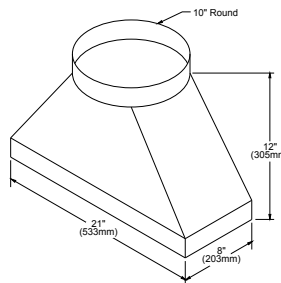

Figure 3:
1. Dacor transition model number ATD10 shown in figure 3 is available from your local Dacor dealer.